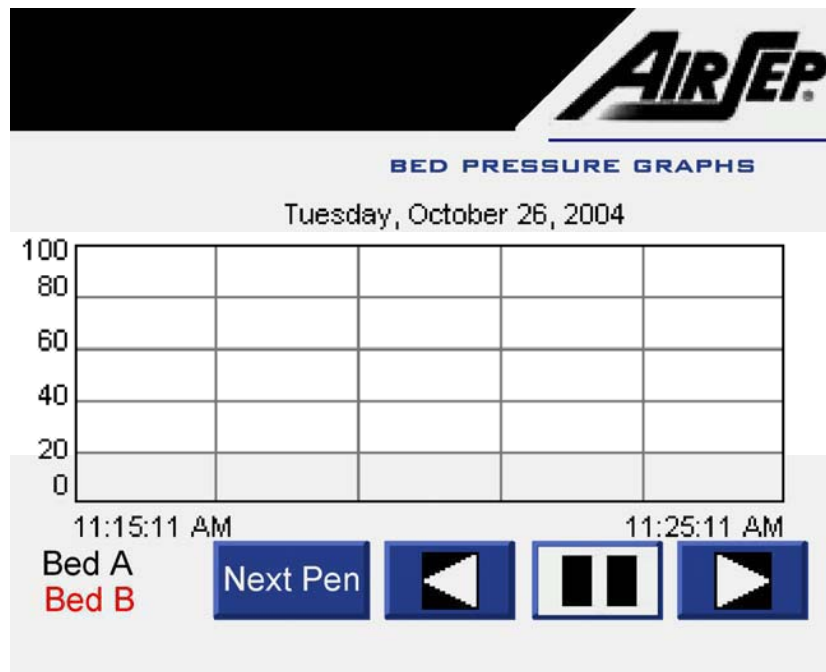
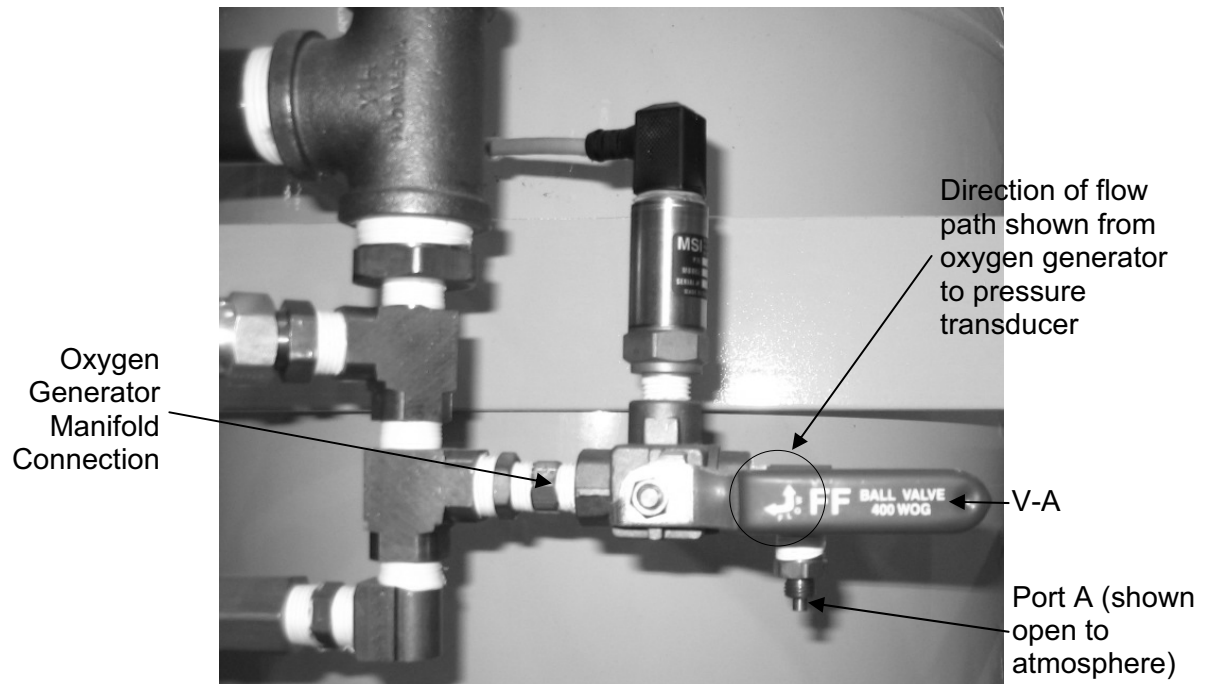

Figure 4.9: Typical Bed Pressure Graphs Screen
Figure 4.11: Feed Air Pressure Transducer Assembly
2. The three-way valve (V-A) (Figure 4.9) handle shows the direction of flow path. In Figure 4.11, direction of flow path is from oxygen generator to pressure transducer. Close this manual three-way valve (V-A), so that the flow path is from the atmosphere to the pressure transducer.
3. Take out the plug, if any, from the port A (Figure 4.11) and attach a manual air pump having an accurate pressure gauge.
8. Open the manual three-way valve (V-A), so that the flow path is from the oxygen generator to the pressure transducer as shown in Figure 4.11.